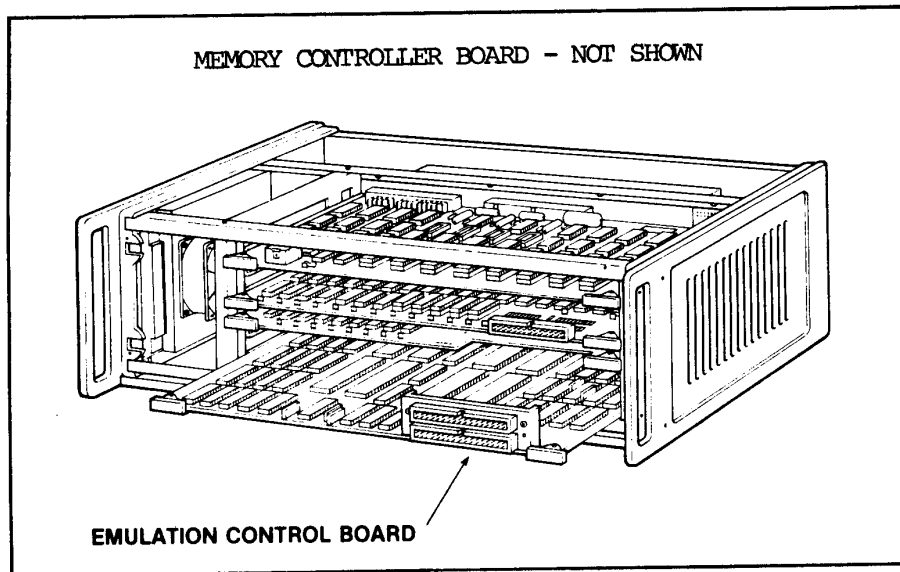

Figure 2-4
2. Install the proper emulation control board in the mainframe as shown in Figure 2-4. See the table below to determine the correct board for the microprocessor you are working with (your emulator will arrive from the factory with the correct board installed if you ordered only one family support; Z8000, 68000, etc.).